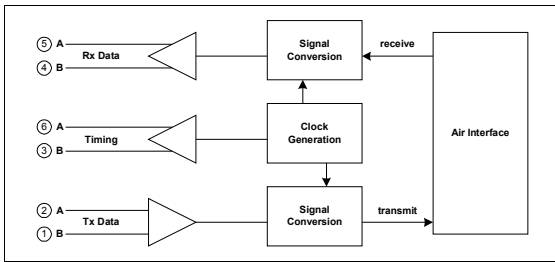

Figure 10 - X.21 Circuit Outline
X.21 Circuit Outline (*Figure 10*) shows the basic functional blocks that form the X.21 sub system and corresponding data paths.